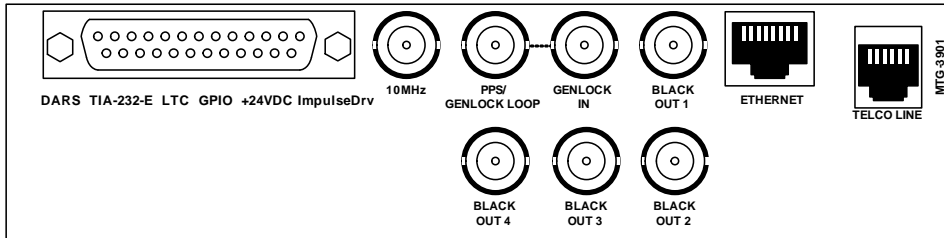

Figure 1-2. MTG-3901-BM Back Module
- The MTG-3901- BM back module connections are shown in Figure 1-2.